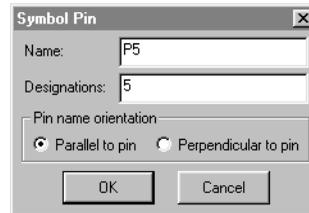

Figure 17.3. Use the Symbol Pin dialog box to edit pin names and designations.
- 2 Right-click a pin to display the dialog box pictured in Figure 17.3.